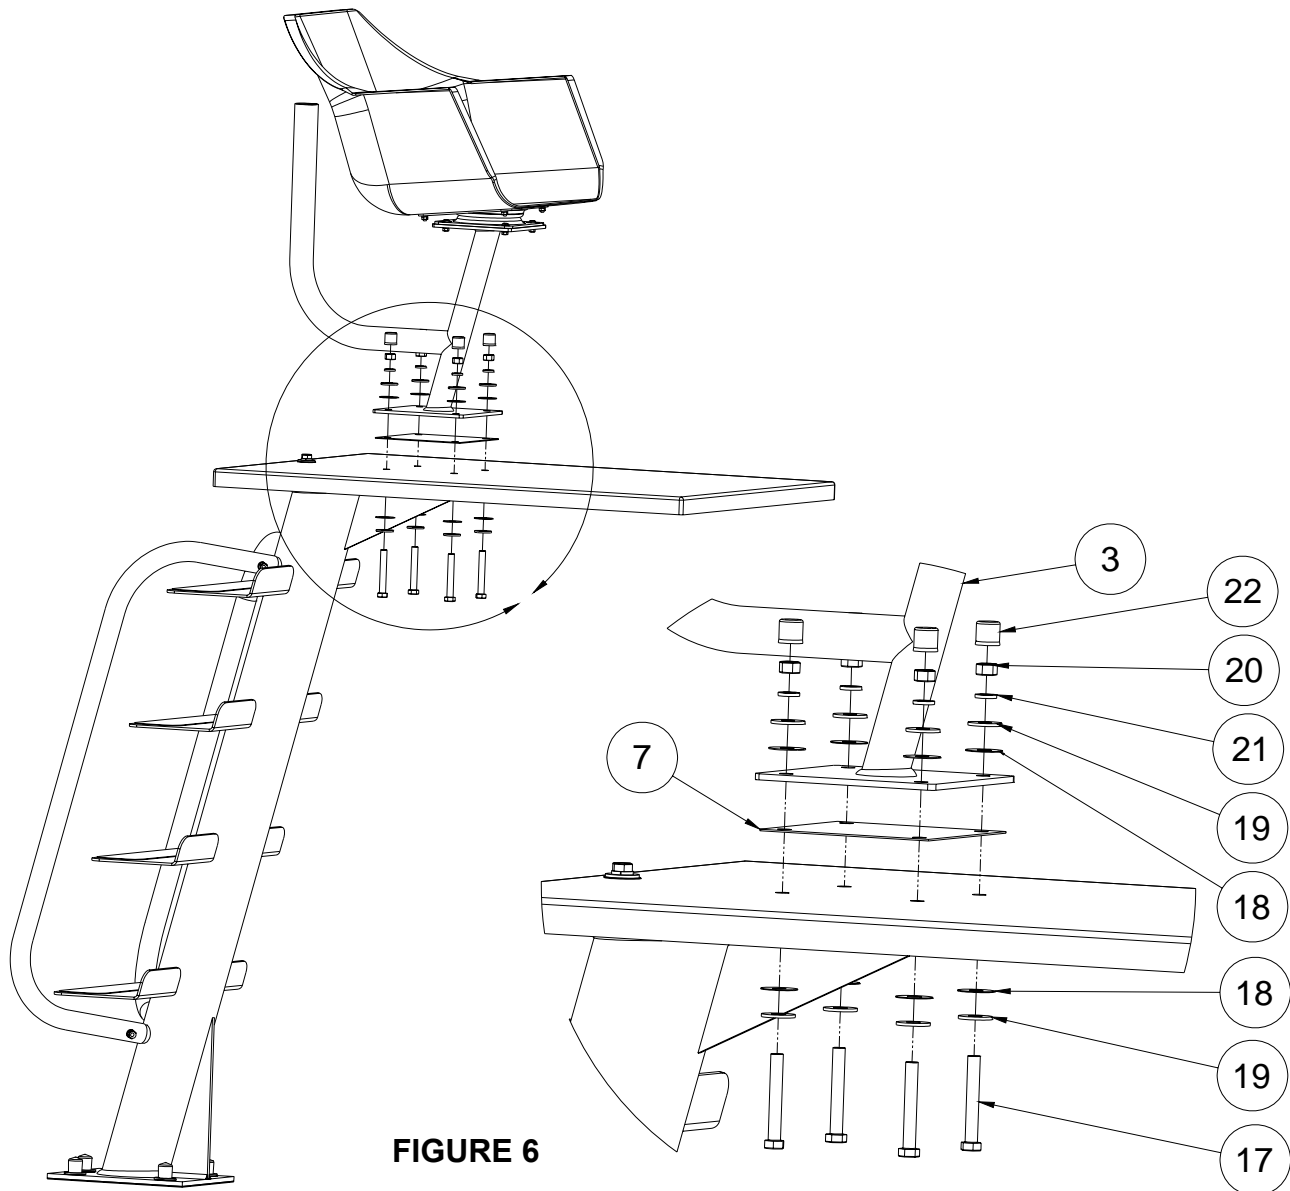

FIGURE 6
- Place **Gasket (item 7)** on **Footboard (item 6)** and align hole patterns. Place **1/2" Flat Washer (item 19)** and **1/2" Nylon Washer (item 18)** onto **1/2" Hex Head Cap Screw (item 17)** four (4) places. Place hex head cap screws, 1/2" flat washers and 1/2" nylon washers up through **Post Assembly (item 2)**, footboard, gasket and 15 deg. swivel stand as shown in **FIGURE 6**. Place **1/2" Nylon Washers (item 18)**, **1/2" Flat Washers (item 19)**, **1/2" Lock Washers (item 21)** and **1/2" Hex Nuts (item 26)** onto the ends of the hex head cap screws. Tighten until the lock washers fully compress. Place **1/2" Nut Cap (item 22)** over the hex nuts four (4) places.